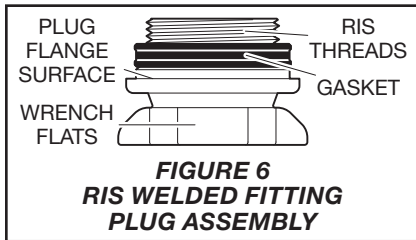

FIGURE 6
- Temporarily plug an open RIS welded fitting with a RIS welded fitting plug assembly, as shown in Figure 6.